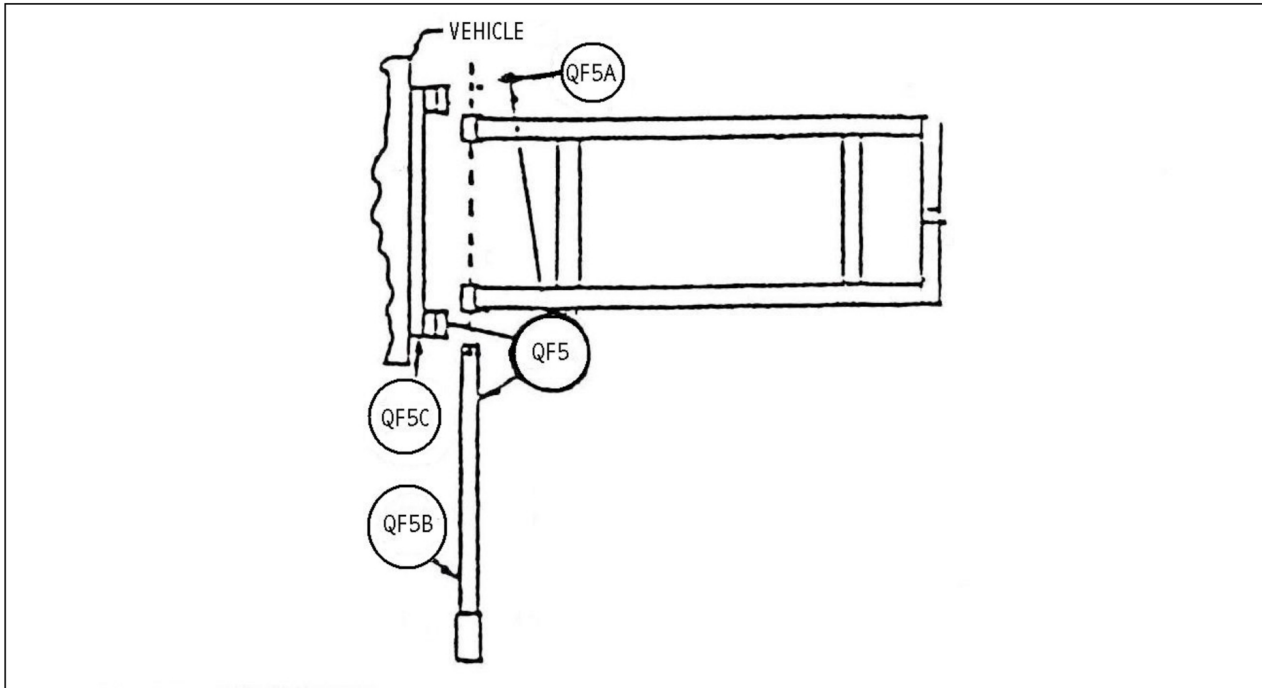

Figure 6: Schematic of Attaching the H-frame to the Vehicle, Top View
1. Slide the connecting rod (the end without the cover) through the hole in the right side of the mounting bracket, then through its corresponding hole in the H-frame (see Figure 6).